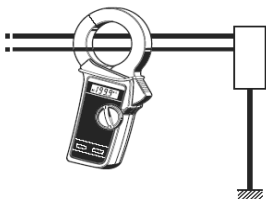

Fig.3 Normal AC Current Measurements
- Frequency selector switch (9) is designed to select the 50/60Hz and “WIDE” frequency ranges. For further details, refer to section 5-4 for operation of the frequency selector switch.
- (1) Set the function/range switch to the desired position. Do not exceed the maximum allowable input current for the selected range.
- (2) For normal measurement, press the jaw trigger to open the transformer jaws and clamp onto one conductor only. See Figure 3. Earth leakage current or small current that flow through a grounded wire can also be measured by this method. (Fig. 4)